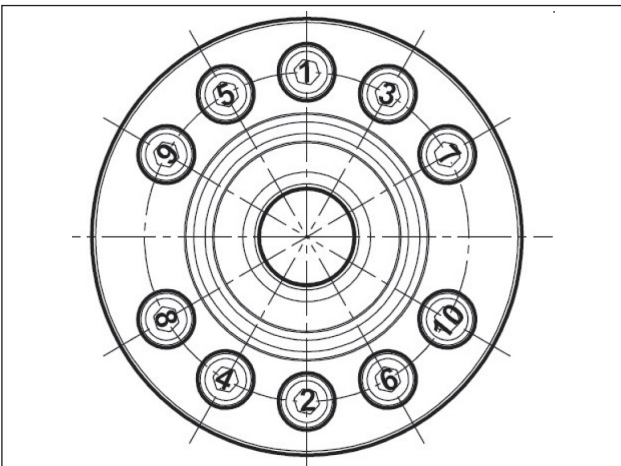

Fig. 49
- \*\*\*\* The supports fixing screws must be tightened respecting the phases and order shown in the diagram in Fig. 49.